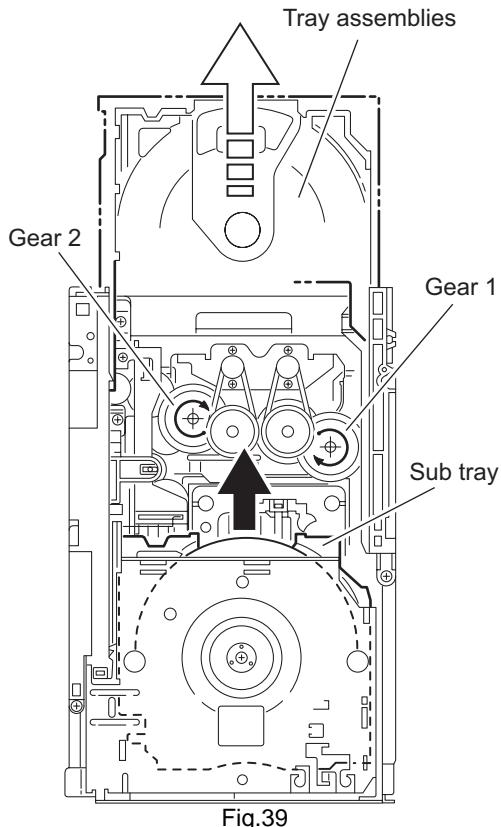

Fig.39
### 3.2.15 Taking out the disc in the play mode (See Fig.39 to 42)
- (1) From the topside of the DVD mechanism assembly, remove the top cover.
- (2) Unlock the tray assemblies and draw out the tray assemblies toward the front.
- (3) From the top side of the DVD mechanism assembly, turn the gear 1 clockwise to move the lifter assembly upward. (See Fig.39.)
- (4) Turn the gear 2 clockwise to move the sub tray remaining inside the lifter assembly toward the front, then pull out. (See Fig.39.)